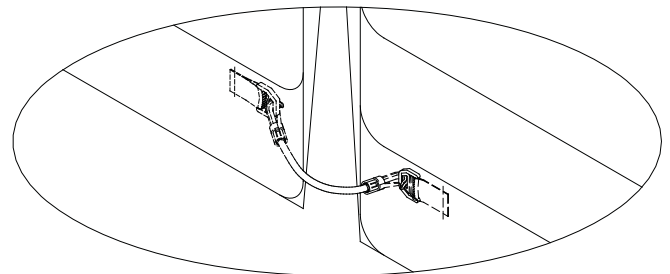

FIGURE 3
edge of the head curtain. (See Figure 3)
- Attach the hook end of the windstrap to the attachment rings. (See Figure 3)